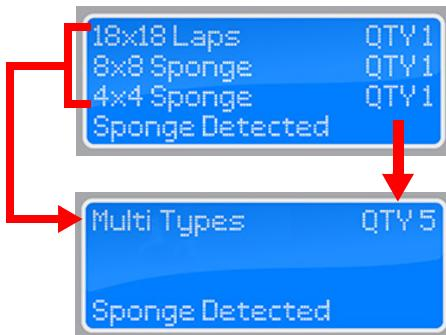

Figure 2-6 Displaying Sponge Types
- If more than 3 sponge types are detected, the display will change to “Multi Types” detected and add the detected sponges into one total quantity. See **Figure 2-6**